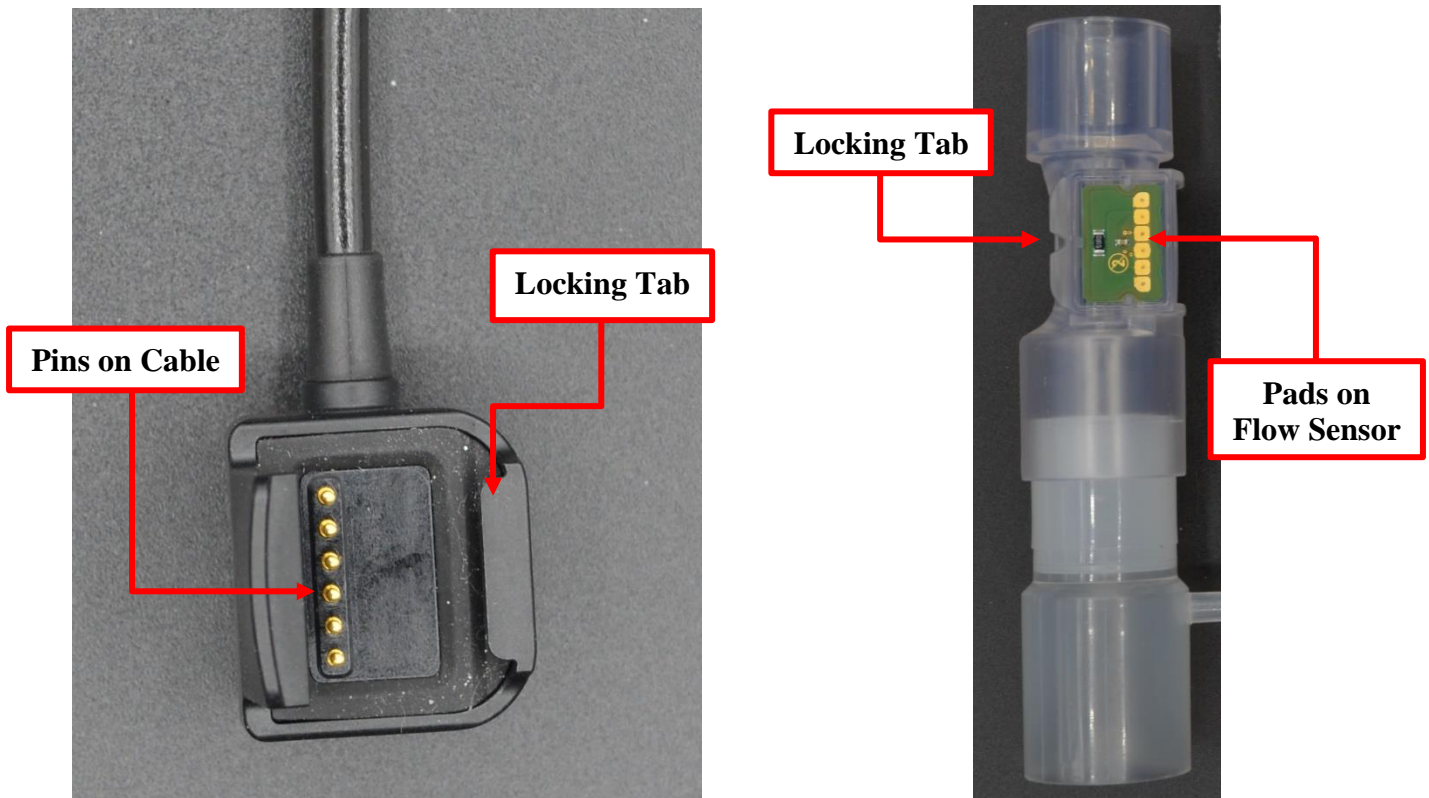

Figure 11: NDM Flow Sensor and Cable Connector
- Align cable head with flow sensor so that locking tabs are lined up together and pins are lined up with the pads (see *Figure 11*).
- Support the bottom of the flow sensor (side opposite to flow sensor pads) and press down on the top of the cable head until locking clip clicks into place (see *Figures 11 and 12*).